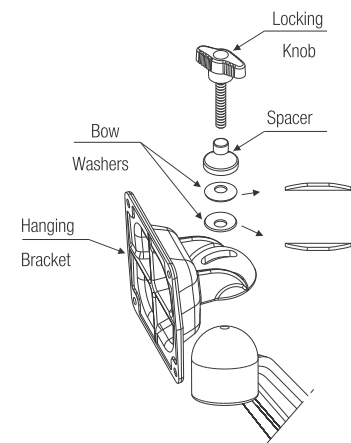

Fig. 3
4. Fix the Diagonal arm onto Extended Arm with Cap & M6 screw & then tighten the grub screw as shown in Fig. 3.
3. Fix the Diagonal arm onto double Arm base with Cap & M6 screw & shown in Fig. 3. tighten the grub screw as shown in Fig. 3a.
3. Fix the extended arm onto the double arm base with cap & M6 screw as shown in Fig.3. & tighten the grub screw as shown in Fig. 3a.
4. Assemble the other parts as shown in Fig. 3.
3. Assemble the other parts as shown in Fig. 3.